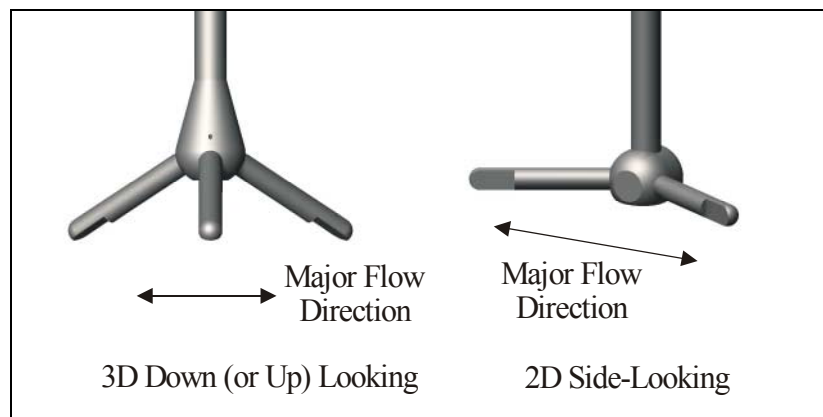

Figure 16 – Preferred Flow Direction to Avoid Flow Interference
- The Triton should be oriented so that the axis of the transmit transducer is roughly perpendicular to the expected direction of flow (Figure 16).